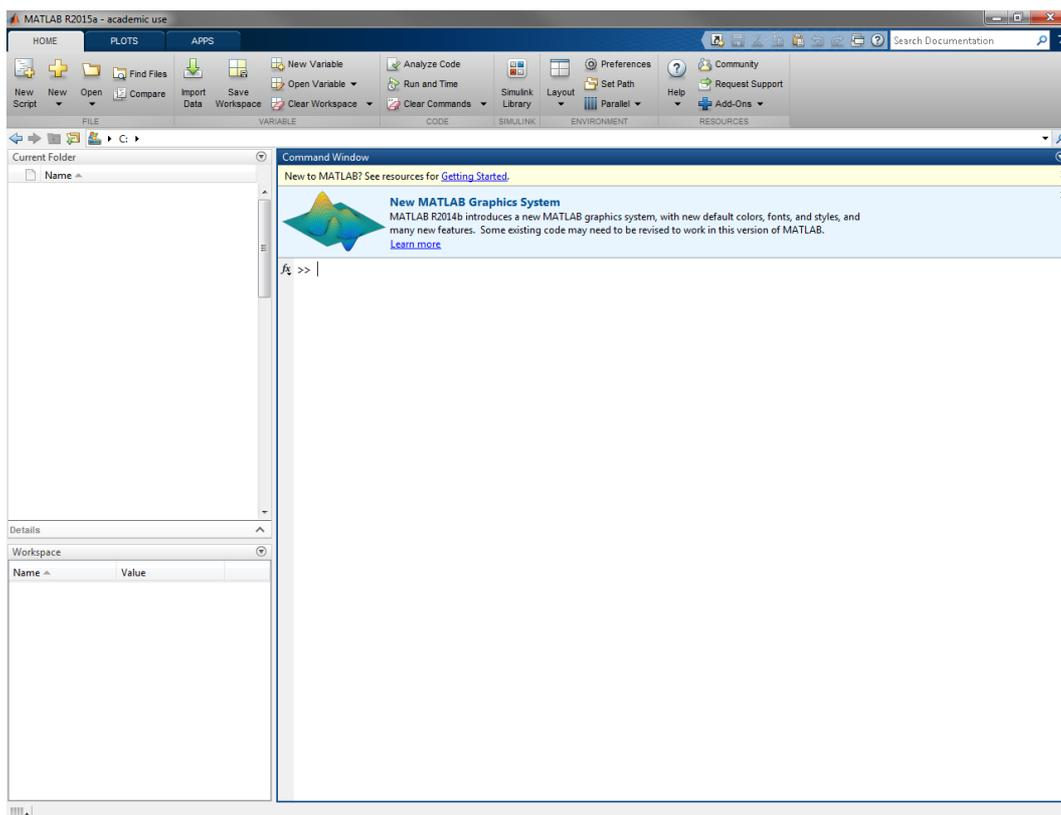

Figure 4.22: MATLAB workspace environment
MATLAB will open and you will see the main workspace, as shown in Figure 4.22 (or a variation thereof).
- Copy the address to the clipboard and open the MATLAB workspace shown previously in Figure 4.22.